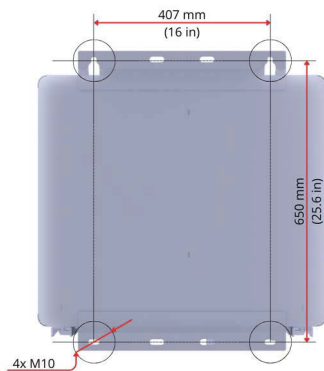

Fig. 9: Assembly dimensions
1. Install the mounting rails as shown in Fig. 9. Make sure that the Connection Box has an angle of at least 10°.